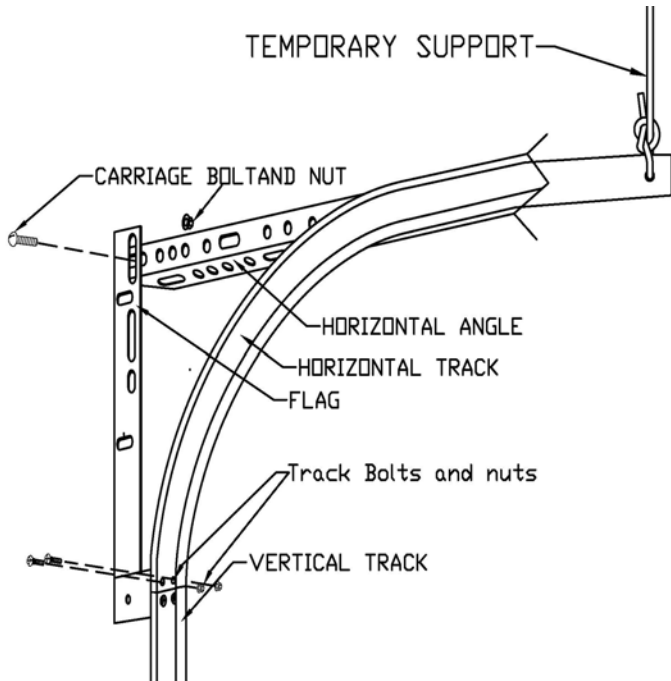

Figure 14
Step 13: Select the horizontal (curved) track and raise it to the overhead position and align it with the vertical track. See figure 14.
Step 14: Attach the horizontal angle to the flag using 5/16" x 3/4" carriage bolt and flange nut. See figure 14.
Step 15: Attach the curved end of the track to the flag with two 1/4" x 5/8" track bolts and flange nuts so the heads of the bolts are on the inside of the track. See figure 14.